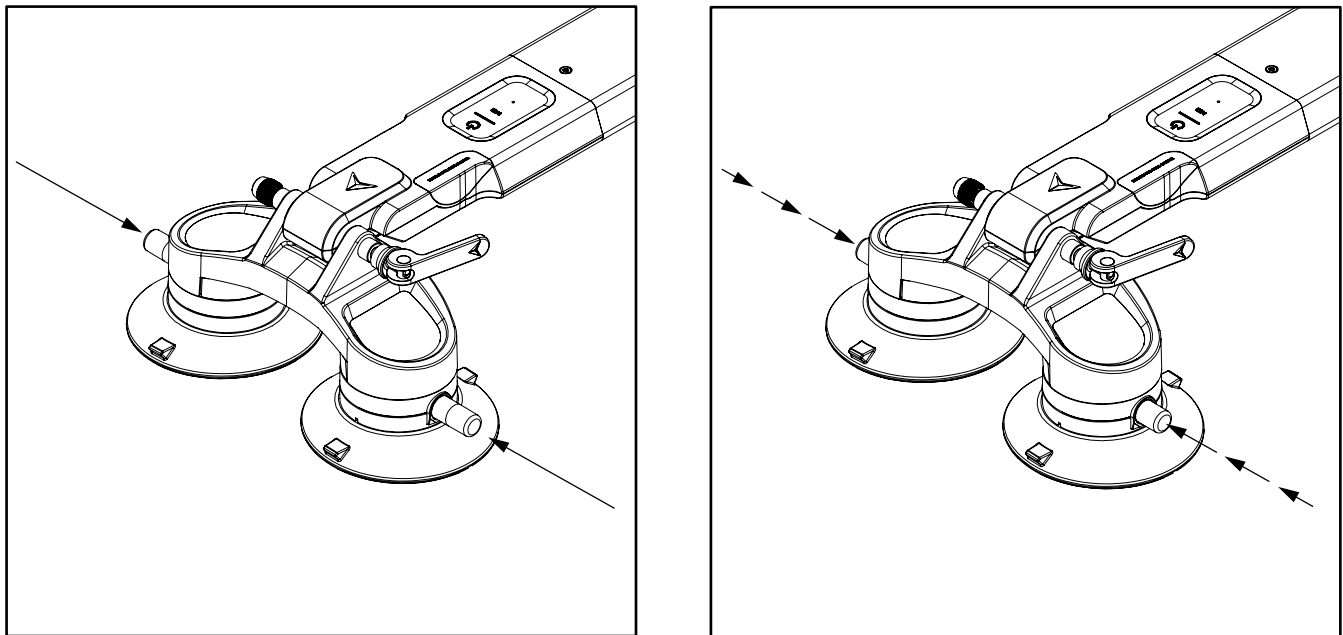

FIGURE 19
**STEP 4:** Create a suction seal by applying downwards pressure to the top of the cup and manually pumping the button on each of the suction cups as shown in **Figure 19**. Once the red barrel indicator on the button is no longer visible, the suction cup is properly sealed to the vehicle.